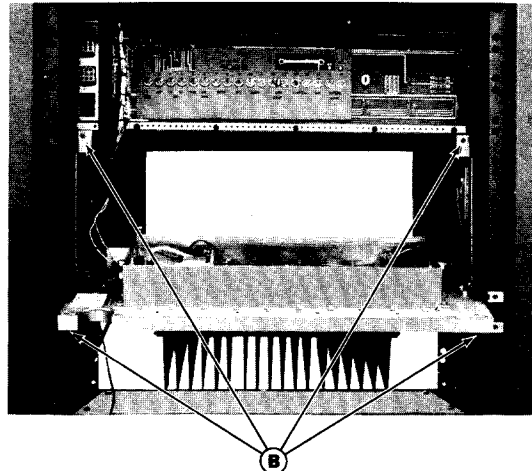

Figure 5 - Access to Power Amplifier
| Figure 5 - Access to Power Amplifier (Rear View) | 4 |
1. Remove the top two screws (B) on the Intermittent or Continuous Duty Power Amplifier. Refer to Figure 5.